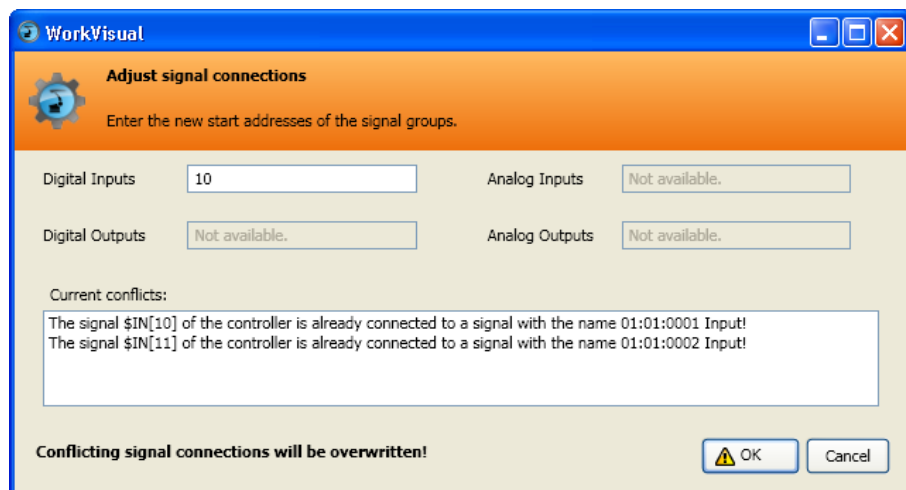

Fig. 6-4: Adjust signal connections
6. If I/O connections were transferred together with the device, the **Adjust signal connections** window is opened. (>>> Fig. 6-4 )